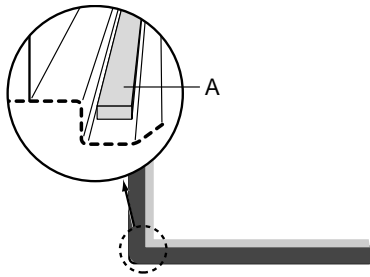

fig. 6
- Stick the sealing strip (A) onto the underside of the hob (see fig. 6).